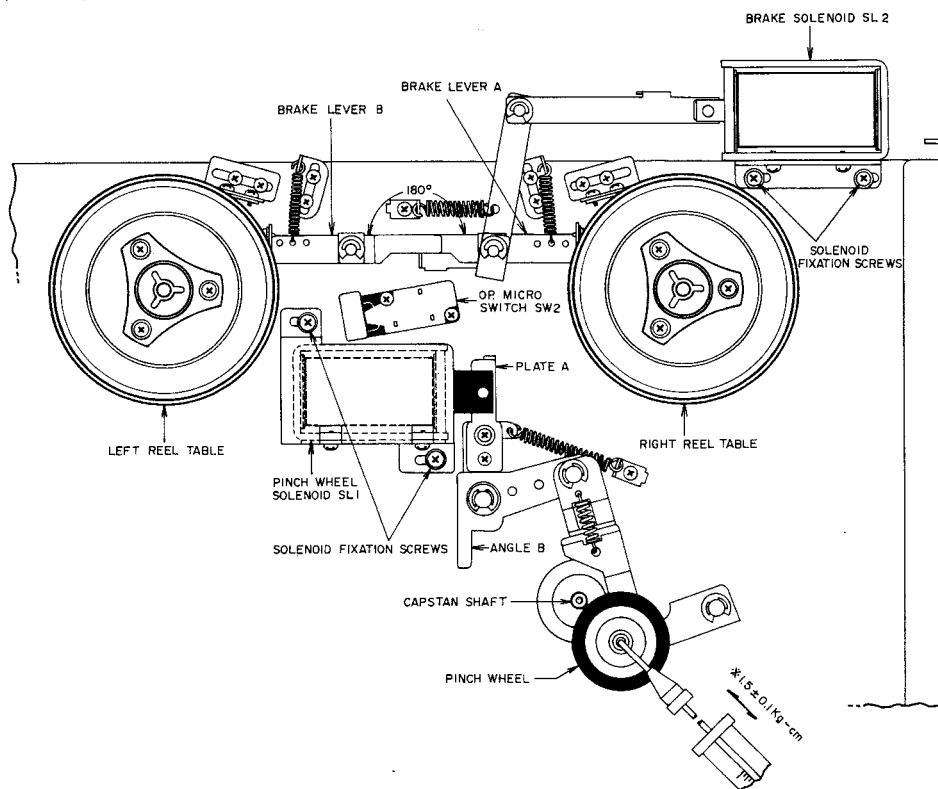

Fig. 1
1. BRAKE SOLENOID INSTALLATIONS POSITION ADJUSTMENT (Refer to Fig. 1)
2. PINCH WHEEL PRESSURE ADJUSTMENT (Refer to Fig. 1)